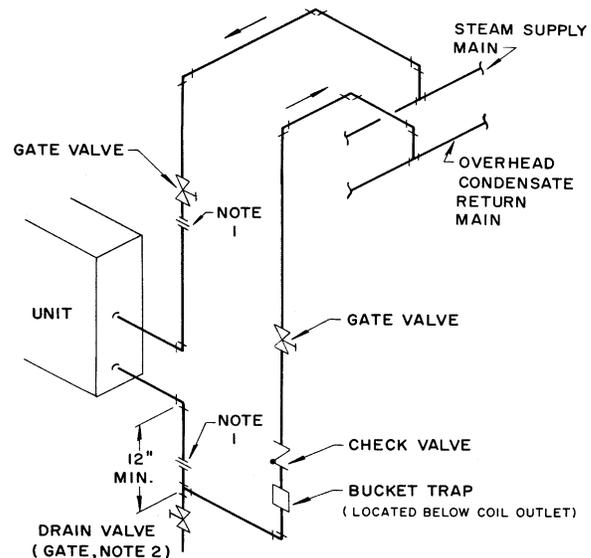

Fig. 31 — Multiple Coil Low Pressure Piping Gravity Return
5. Tension new drives at the maximum deflection force recommended (Fig. 31).
Figure 31 illustrates the basic condensate lift piping.